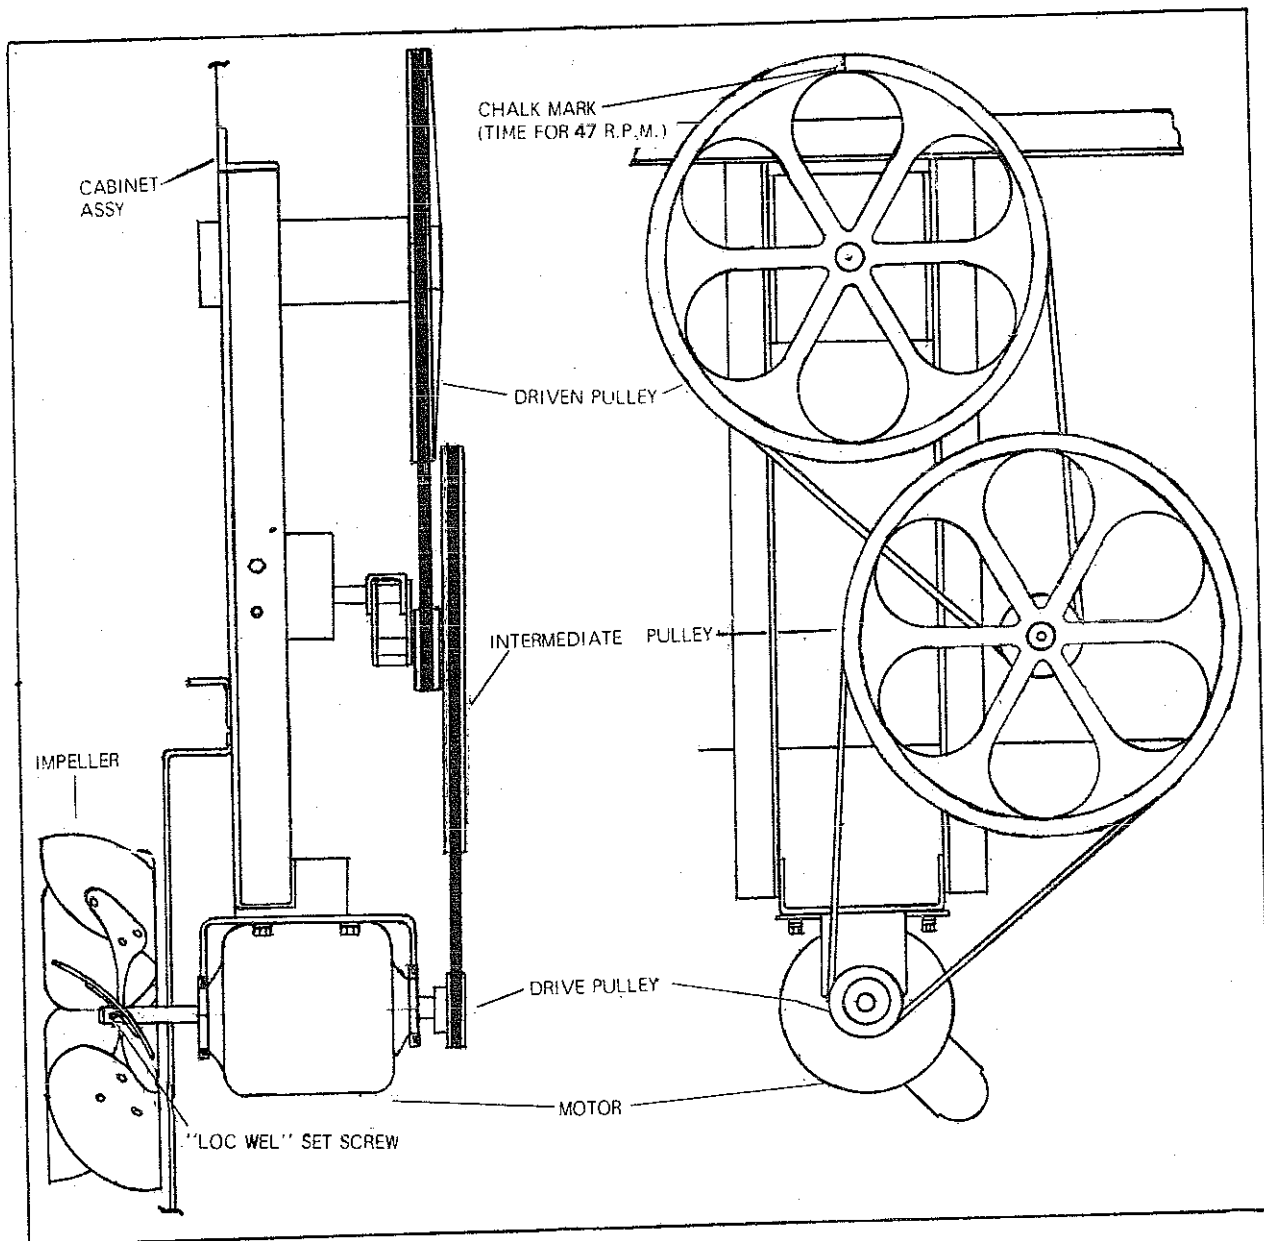

Figure 3-11. Pulley and Belt Assembly
1. Grasp and slide the drive belt off the intermediate pulley. (Refer figure 3-11).
1. Grasp and slide the driven belt off the driven pulley as the driven pulley is rotated. (Refer figure 3-11).
3-30 INTERMEDIATE PULLEY AND TENSION ARM REMOVAL (Refer figure 3-11).